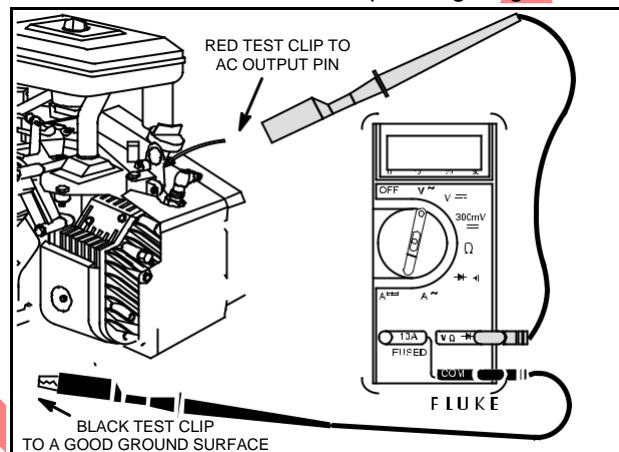

Fig. 18 – Testing AC Output
4. Attach RED test lead clip to AC output terminal, Fig. 18.